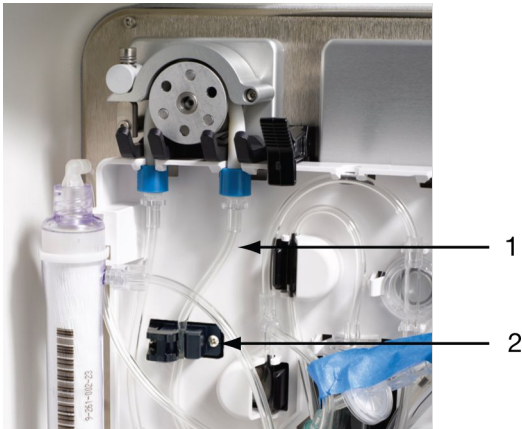

Figure 7-9: EC inlet line properly loaded
20. Use a flossing technique to load the EC inlet line located on the right side of the EC inlet pump into the EC fluid detector. Figure 7-9 shows the EC inlet line properly loaded into the EC fluid detector.